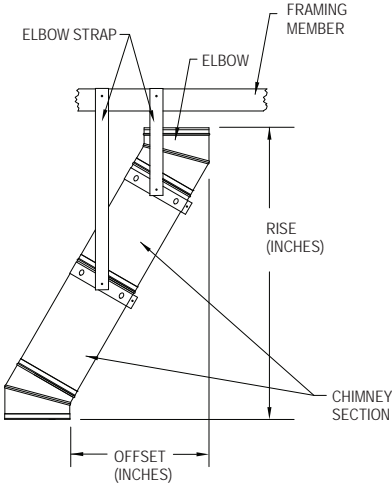

Figure 15
**1. Attach Elbows:** Attach Elbow to Chimney Section or other Elbow by mating the male and female ends with each other and using the (6) sheet metal screws provided. Attach one Elbow to the Chimney Section below, and align it for the offset. Refer to **Table 3** to determine the required offset length and attach an appropriate length (or lengths) of Chimney Section(s) above the Elbow. For each Chimney Section in the offset, an Elbow Strap must be used to support the weight of that pipe section. No more than half of the total chimney run can be between the elbows (inclined); this is to ensure the chimney drafts properly (e.g. if the total chimney run is 20-ft, no more than 10-ft is allowed to be between the elbows). Attach the second Elbow above the Chimney Section to complete the offset (**Fig 15**).
**2. Secure Offset:** Place the Elbow Strap's band around the angled portion of the top Elbow, then tighten the nut and bolt until the clamp is firm. Wrap the Elbow Strap end over an adjacent joist or rafter and secure it with at least two 8-penny nails or #8, 1-1/2" screws. Do not add more Chimney Sections until the Elbows are supported. Be sure that the chimney remains vertical (**Fig 15**).